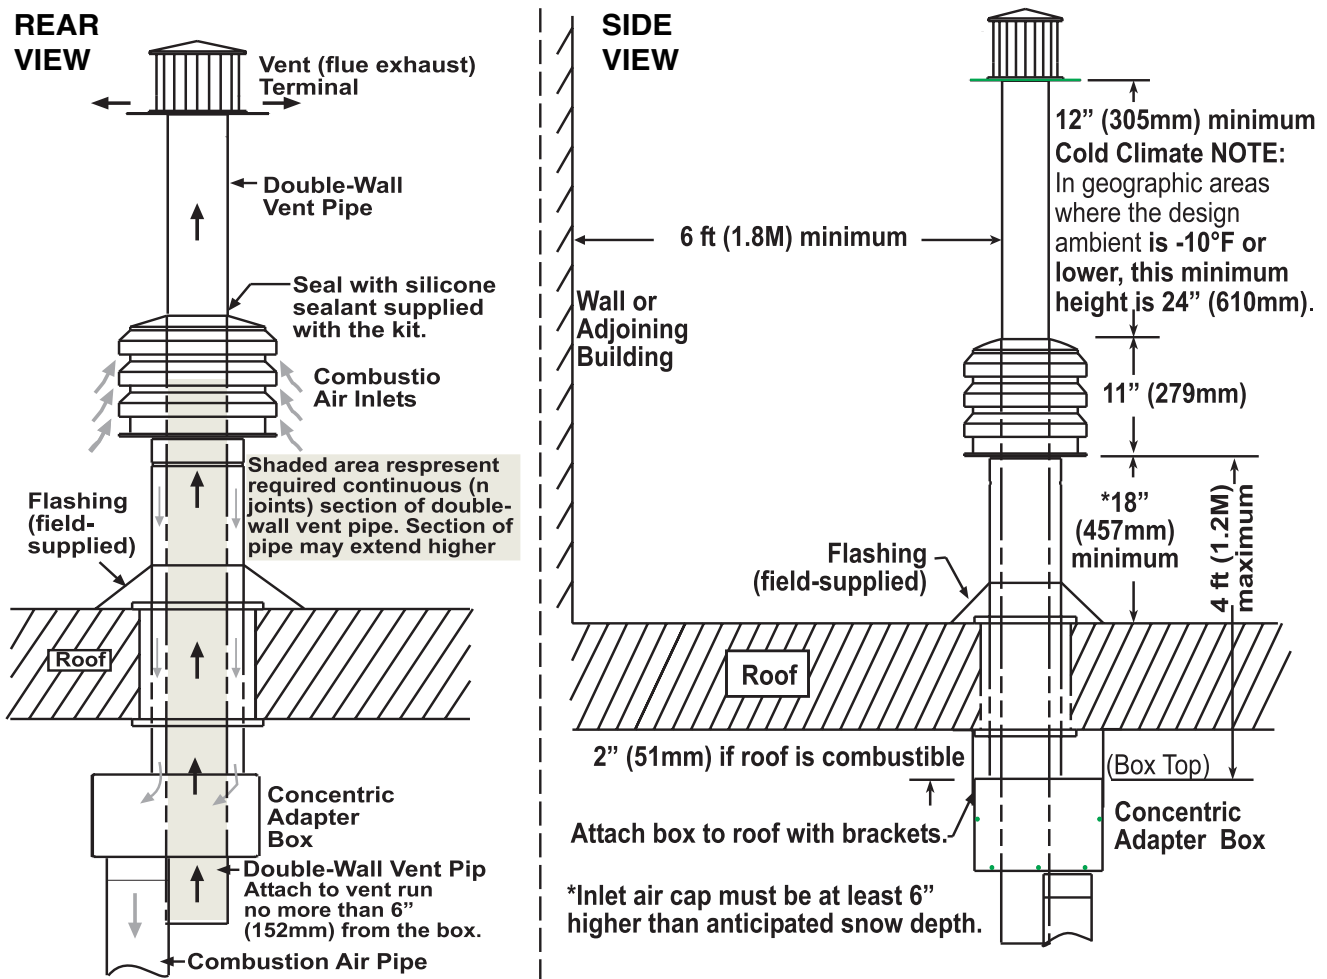

Figure 17. Option CC2 Installation
- Select location away from fresh air intakes, allowing space for concentric adapter box inside. Vent terminal must be located away from adjacent buildings as shown in Figure 17.
7. Verify compliance with Figure 17 and with all specific venting requirements listed above.